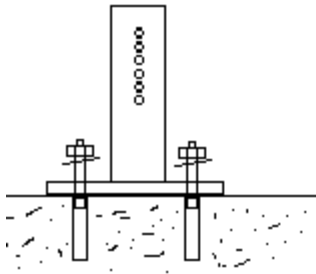
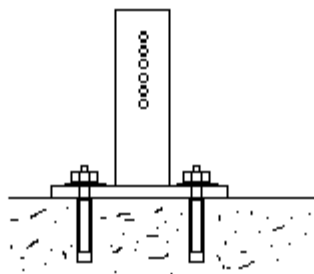
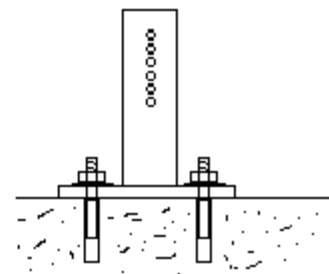

Figure 1
Figure 2
Figure 3
- Following completion of layout, use a concrete hammer drill and concrete drill bit, drill (2) 3/8" x 4" deep holes at the proposed location. Insert (1) "D" Wedge Anchor slightly in each hole (to ease install) leaving the threaded end up and outside of the hole. Gently place the StandRite-Pro™ over the anchors and place the anchor flat washer and nut on each anchor just far enough to expose the tip of the anchor (see figure 1). (Do not tighten down the nuts at this time). With anchors slightly in the holes and StandRite-Pro™ in place and washers and nuts loosely started on anchor per figure 1, drive anchors into the concrete holes with a hammer insuring you do not make contact with the nuts themselves (see figure 2). Once anchors have been driven down, use a suitable wrench to tighten the nuts. Note that the anchors will rise out of the holes slightly until the wedge collar on the anchor seats on its wedge (see figure 3).